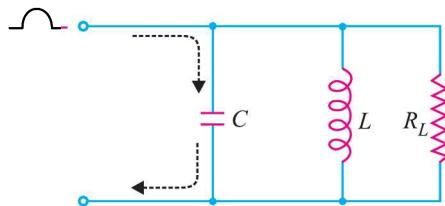

Fig. 15.19
- (iii) When this pulsed output is fed to the  $LC$  circuit, \*\*sine-wave output is obtained. This can be easily explained. Since the pulse is narrow, inductor looks like high impedance and the capacitor like a low impedance. Consequently, most of the current charges the capacitor as shown in Fig. 15.19.